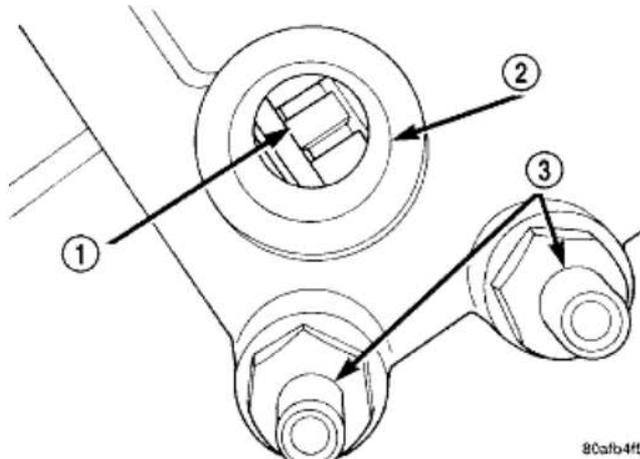

Fig. 146: Verifying Proper Seating Of Input Clutch Assembly
57. Install input clutch assembly into position and verify that it is completely seated by viewing through input speed sensor hole (2) . If view through input speed sensor hole is not as shown in **Fig. 146**, the input clutch assembly is not seated properly.